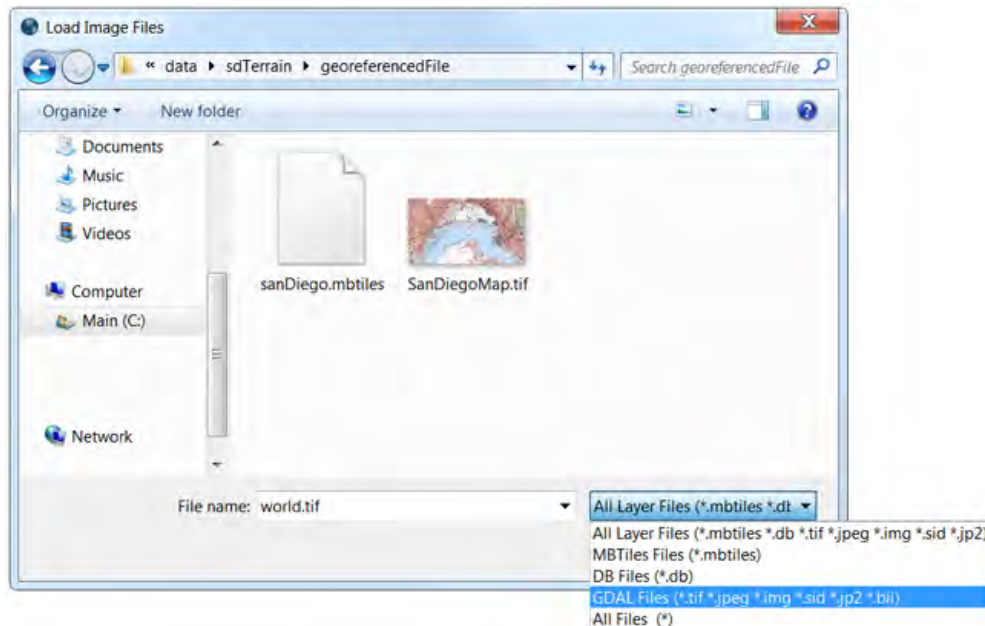

Figure 5.27: Select GDAL Files
2. Load the file **sanFrancisco.mbtiles** same as in Figure 5.27.